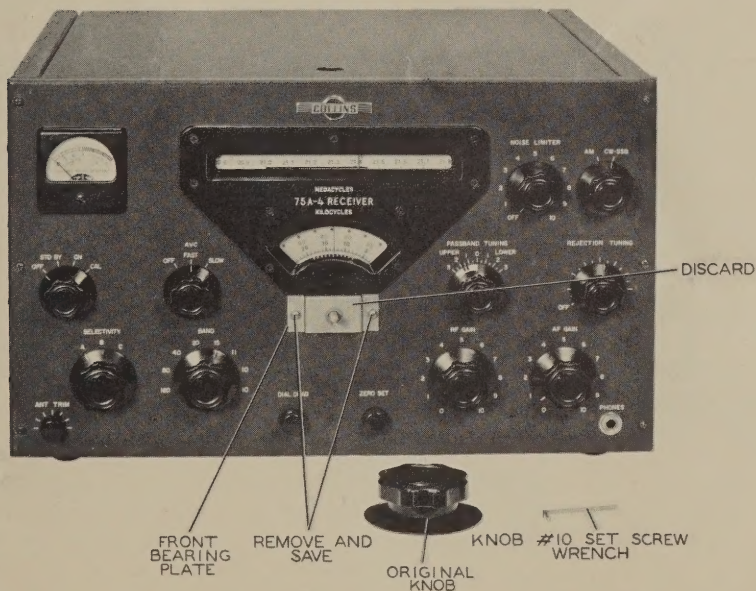

Figure 2. Step 1
1. Refer to figure 2. Using the knob setscrew wrench included with the original purchase of the 75A-4 Receiver, remove the old tuning knob to expose the tuning shaft front bearing plate.